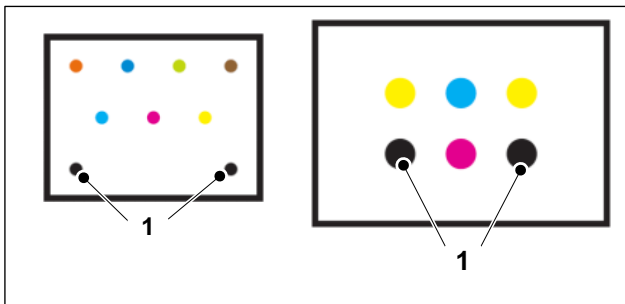

Fig. 14 Reference dots
- The two reference dots (black color dots in the bottom row, Fig. 14/1) must face toward the gripper edge/lead edge of print.